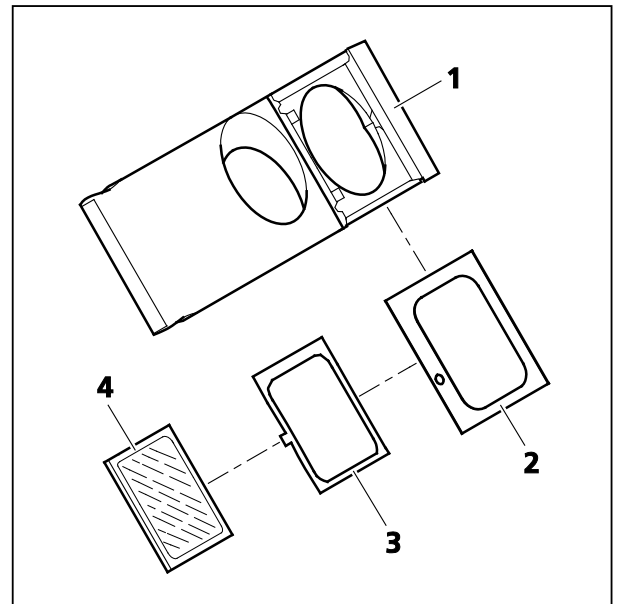

Fig. 3-33 Changing the Beam-Splitting Mirror in the Intermediate Phototube
- Put the existing slider (Fig. 3-33/1) of the intermediate phototube on a desk.
- Use the SW 2 wrench to loosen the screw, remove the cover (Fig. 3-33/2) and the spring (Fig. 3-33/3).
- Take out the existing beam-splitting mirror (Fig. 3-33/4). Then insert the desired beam-splitting mirror (with the coated surface downward).